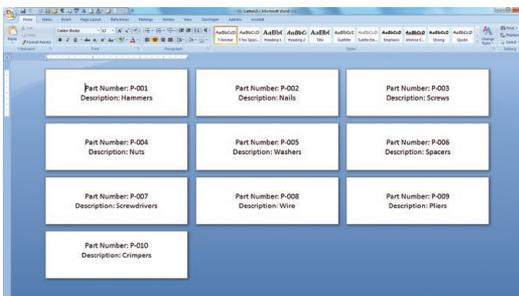

FIGURE 22 Your labels are displayed in sequence prior to printing.
**S.** A **Checking and Reporting Errors** window now appears. Leave the second option selected and click **OK** (Fig. 21). Your labels are displayed on a single document for your review (Fig. 22).